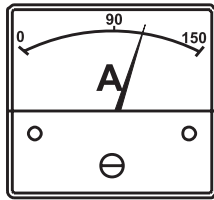

Figure 55. Ammeter (Load)
11. Observe the generator's ammeter (Figure 55) and verify it reads the anticipated amount of current with respect to the load. The ammeter will only display a current reading if a load is in use.